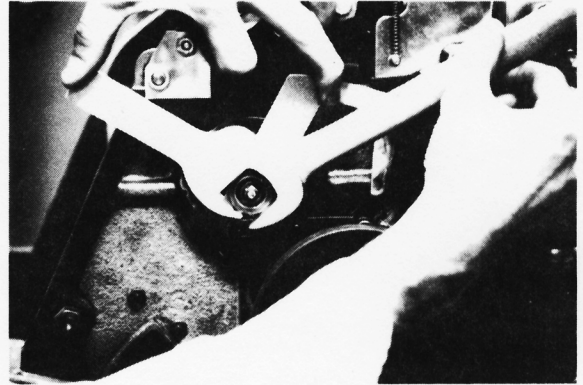

Fig. 4
9. Reinstall 2nd lock nut against lift lever insuring that neither lever nor cylinder shaft lock nut move. NOTE: If inside lock nut is overtightened, the cylinder latch mechanism will not operate smoothly. (Fig. 4)